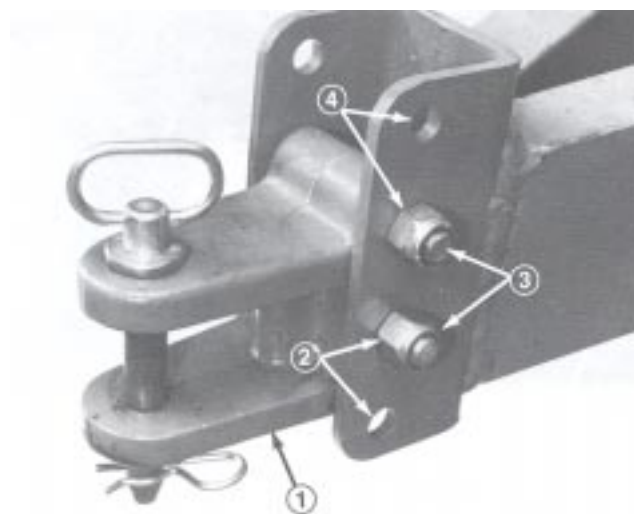

Figure 4
- Adjust transport frame hitch up or down according to measurement of tractor hitch. Use appropriate mounting holes as shown in chart below and in Fig. 4.